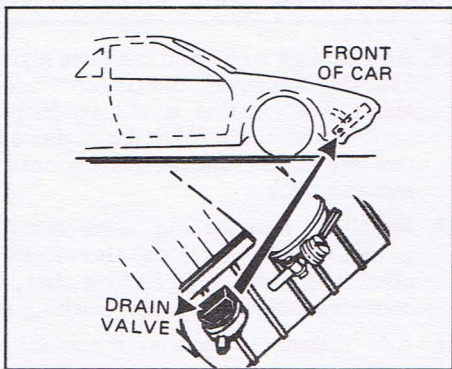
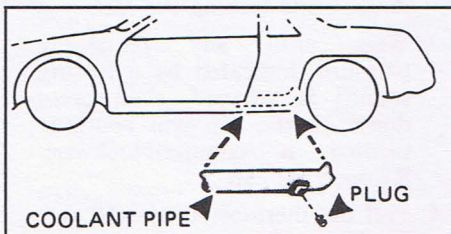

Figure 3 - Radiator drain valve
Figure 4 - Coolant pipe drain plug
6. Stop the engine. Open the radiator drain valve to drain the coolant. See Figure 3. Drainage may be speeded by removing the drain plugs in the engine block and in the left and right coolant pipes. The coolant pipes run underneath the car. The coolant pipe plugs are located at the rear of each pipe just ahead of the rear tires. See Figure 4. The engine block drain plugs are located near the base of the block, just above the oil pan.